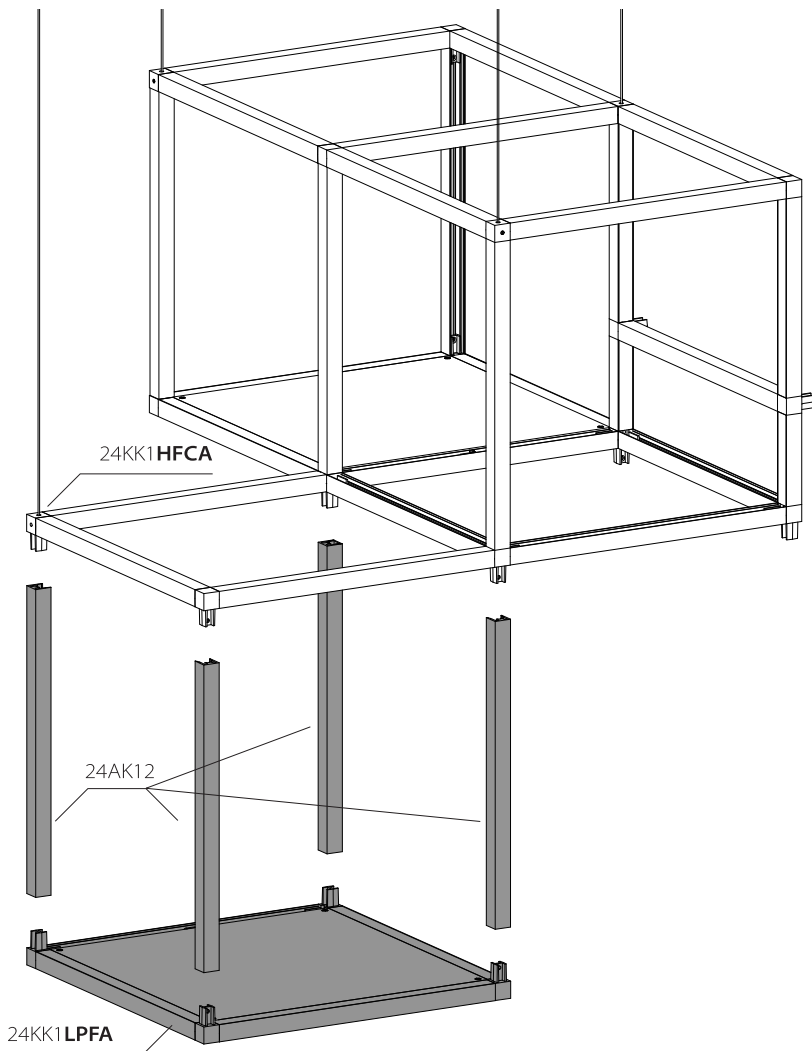

Fig. 8a
- 6a. Install (4x) 24AK12 to 24KK1LPFA and install to 24KK1HFCA assembly in the orientation shown in Fig. 8a.